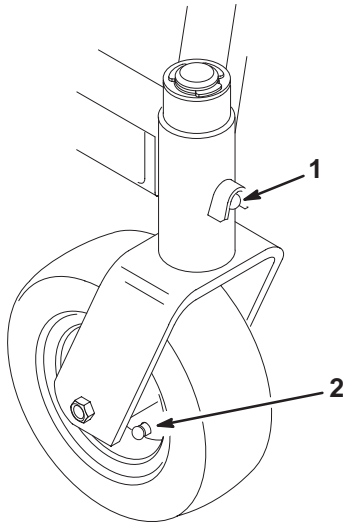

Figure 23
3. Grease the fittings on the carrier frame mounting tubes and castor wheels (Fig. 23).